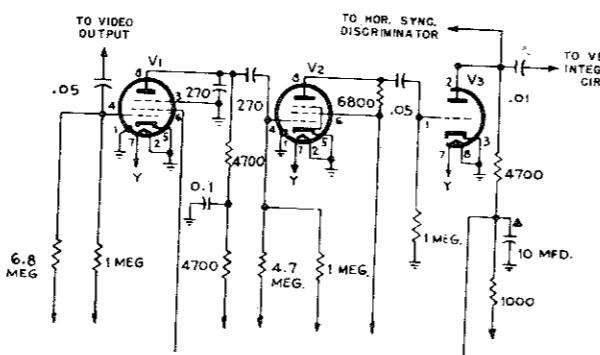

FIG. 37. A typical sync amplifier and sync separator circuit.
**The Sync Circuits.** Fig. 37 shows a typical sync amplifier and sync separator circuit. When you view the waveforms in the sync circuit, consult the manufacturer's instructions to find the correct wave shape at the different viewing points.